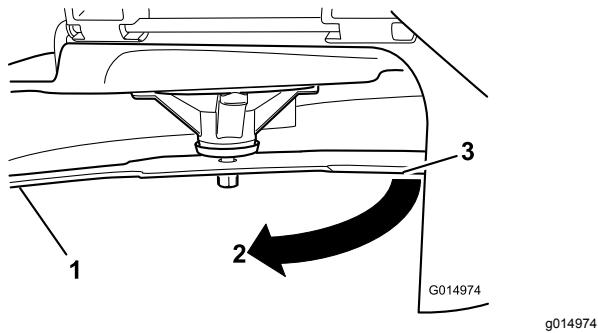

Figure 92
3. Measured distance between blade and the surface (A)
4. Rotate the same blade 180 degrees so that the opposing cutting edge is now in the same position (Figure 92).